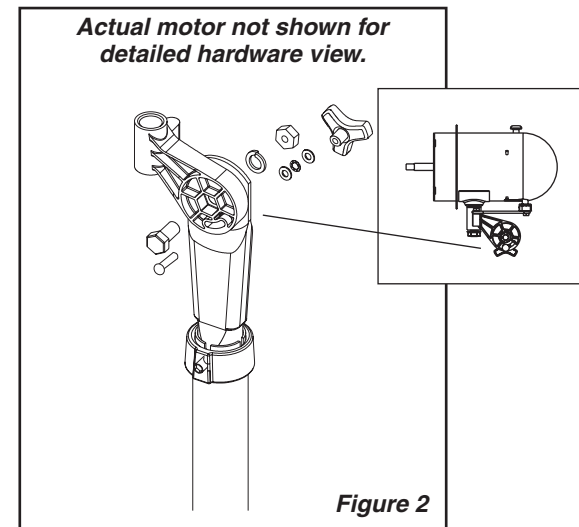

Figure 2
1. Place flat section on Upper Tube of Column Assembly next to Neck on Motor Assembly. Align the 1/2" diameter hole in the flat section on the Upper Tube of Column Assembly with the 1/2" diameter hole in the Motor Assembly. (Figure 2)
2. Insert the 1/2" X 1" Hex Bolt (3/4" head) through the Motor Neck, and the Upper Tube Assembly. Place 1/2" diameter Split Lockwasher then the 1/2" diameter Hex Nut (3/4" head) and tighten fully with an adjustable wrench. (Figure 2)
3. From the same side of the Motor Neck, insert one 1/4-20 X 1 5/8" Carriage Bolt through the Arc-Shaped Slot in the Motor Neck and Hole in the Upper Pipe of Column Assembly. (Figure 2)